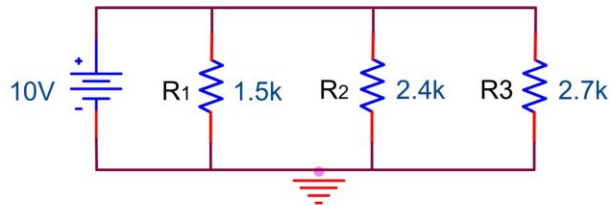

Figure 2.2
2. Calculate R_T , V_1 , V_2 , V_3 and I_1 , I_2 , I_3 , I_T , for Figure 2.2.